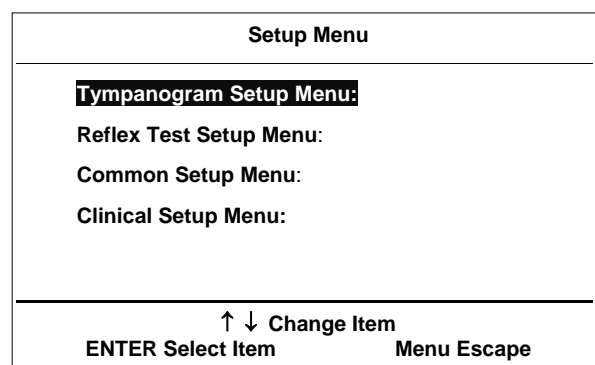

Figure 34
Select the menu option SETUP as illustrated in Figure 34 and the main setup menu will appear on the LCD display ⑤. You can make different settings for the measurement of the tympanogram and the stapedius reflex, for instrument setup (for example the contrast of the LCD display⑤). All your settings are saved permanently until you will change them again. The : instrument is switched off.